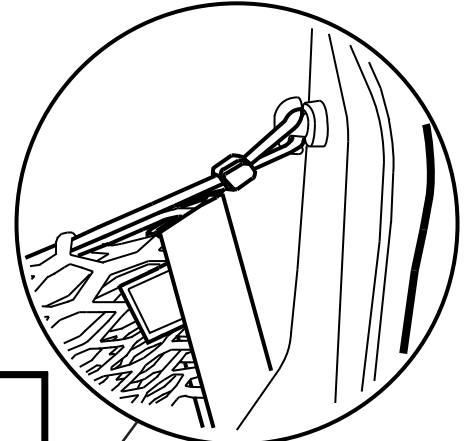
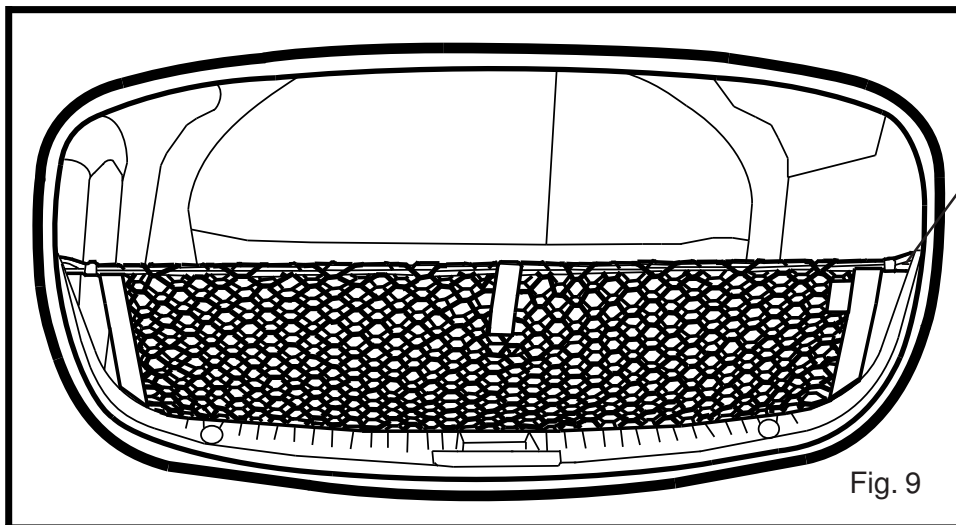

Fig. 9A
Fig. 9
17. Install the cargo net by pulling each corner bungee loop around T-Anchors. (Fig. 9A) Ensure the cargo net opening is in the up position and the pull handle is facing rearward. (Fig 9)